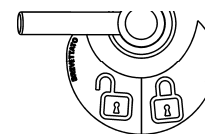

Fig. 1.8.3.1
- with the handle as shown in figure 1.8.3.1, the microswitch is shut off, the feed is free and the machine will not start;